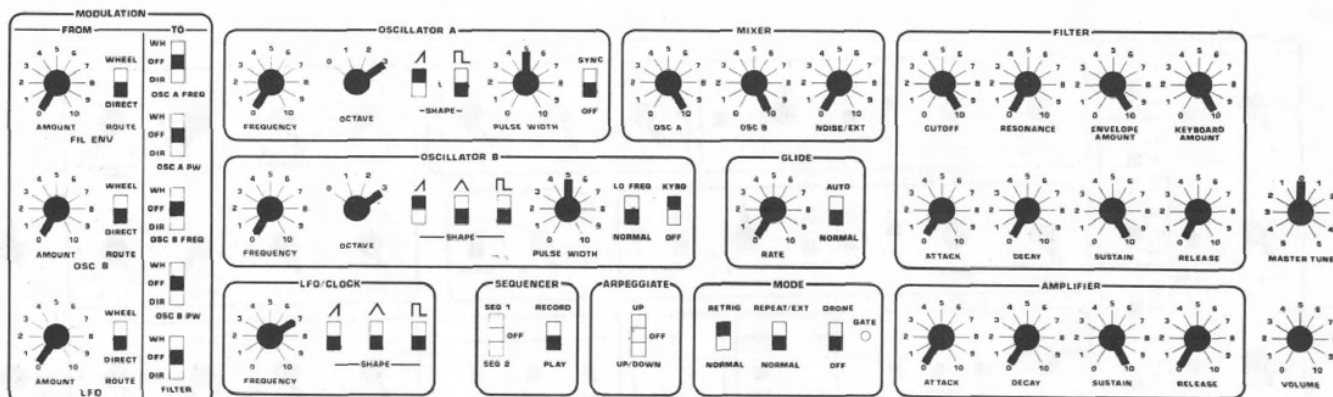

Figure 1-4
2. Patch according to Figure 1-4.